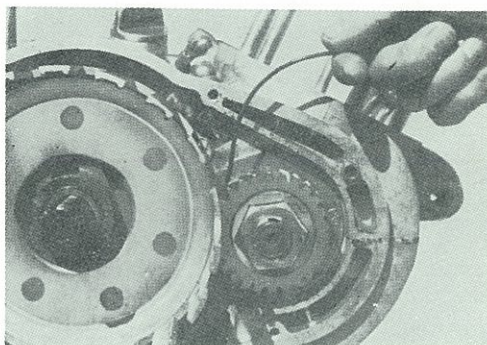

Fig. 8-18-13 Inserting fuse wire
- ##### 2. Backlash between primary gear and primary pinion excessively large or small backlash between the primary gear and primary pinion causes abnormal noise. Measure the backlash with a dial gauge as shown in Fig 8-18-13. Be sure to set the feeler of the dial gauge along the tangential line and turn the clutch housing by hand.